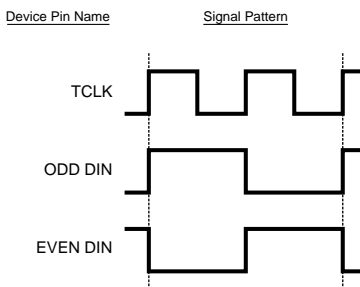
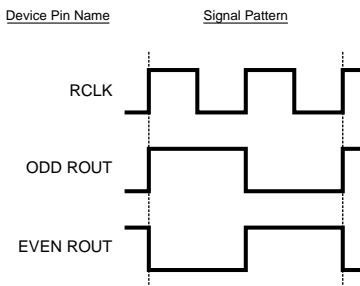
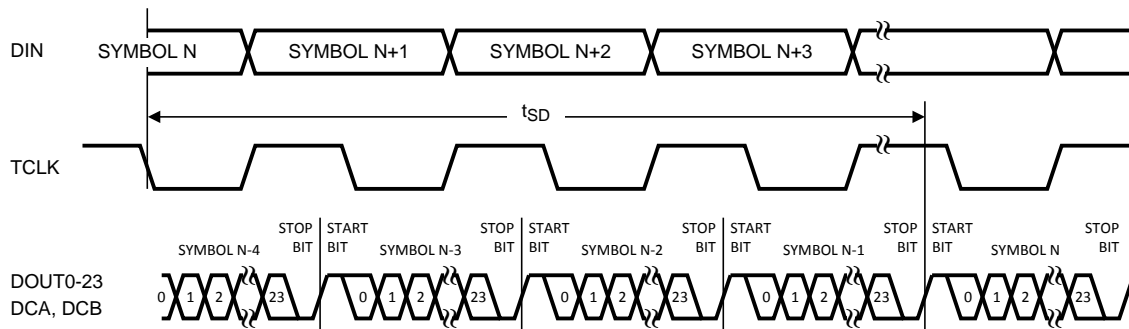

Figure 1. Serializer Input Checker-board Pattern
Figure 2. Deserializer Output Checker-board Pattern
Figure 8. Serializer Delay
(5) Digital, PLL, and Analog VDDs
(6) Figure 1, Figure 2, Figure 8, Figure 12, Figure 14 show a falling edge data strobe (TCLK IN/RCLK OUT).
- (1) Specification is guaranteed by characterization and is not tested in production.
- (2) When the Serializer output is at TRI-STATE, the Deserializer will lose PLL lock. Resynchronization MUST occur before data transfer.
- (3) Figure 1, Figure 2, Figure 8, Figure 12, Figure 14 show a falling edge data strobe (TCLK IN/RCLK OUT).
- (4) t_{JIT} (@BER of 10e-9) specifies the allowable jitter on TCLK. t_{JIT} not included in TxOUT_E_O parameter.
- (5) UI – Unit Interval, equivalent to one ideal serialized data bit width. The UI scales with frequency.